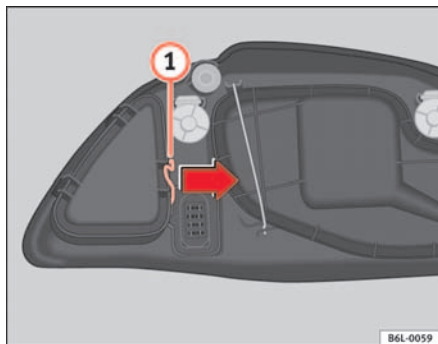

Fig. 146 Indicator lights
- Remove the loops ① ⇒ fig. 146 in the direction of the arrow and remove the cover.